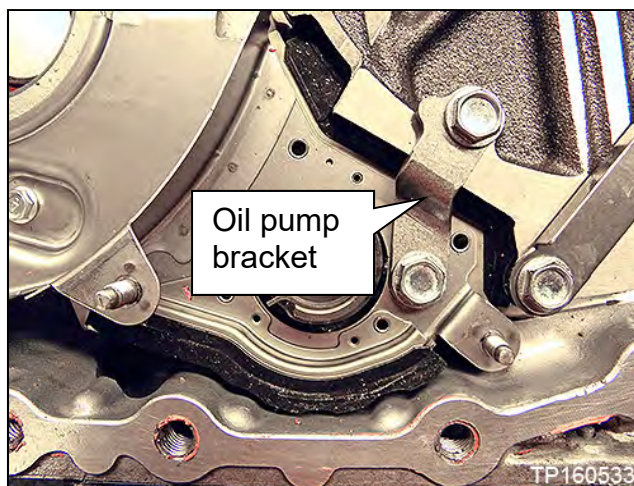

Figure 44
26. Remove the Oil pump bracket (Figure 44).